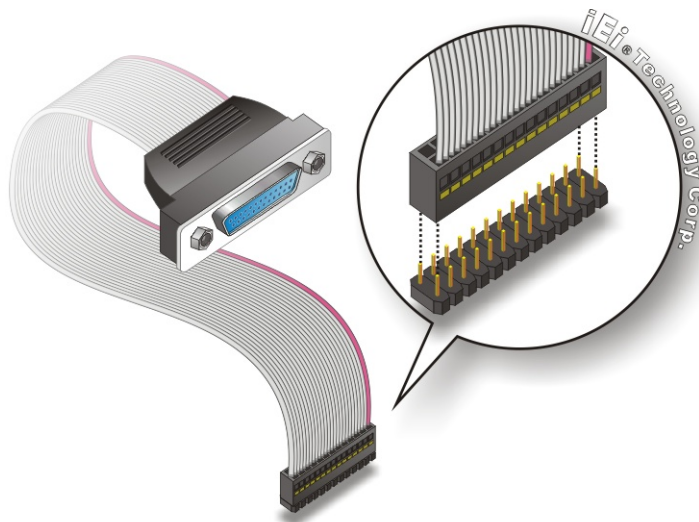

Figure 5-12: LPT Cable Connection
Step 2: Align the connectors. Correctly align pin 1 on the cable connector with pin 1 on the WSB-945GSE LPT box-header connector. See Figure 5-12.
Step 3: Insert the cable connectors Once the cable connector is properly aligned with the 26-pin box-header connector on the WSB-945GSE, connect the cable connector to the on-board connector. See Figure 5-12.